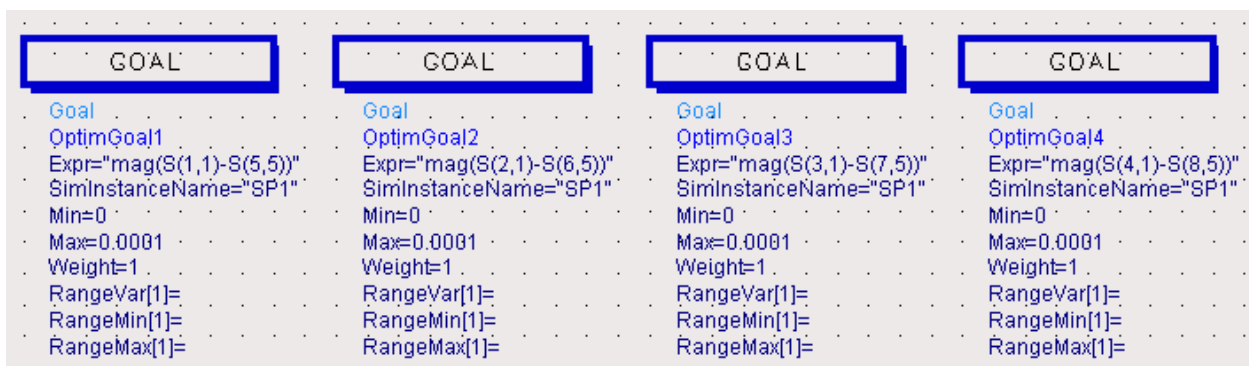

Figure 7. Optimization goals used to improve the response of the microstrip quadrature coupler.
- a) Add optimization goals that will try to force the differences between S11, S21, S31 and S41 of the ideal coupler, and the corresponding parameters of the microstrip version (S55, S65, S75 and S85), to be zero. Refer to Figure 7.